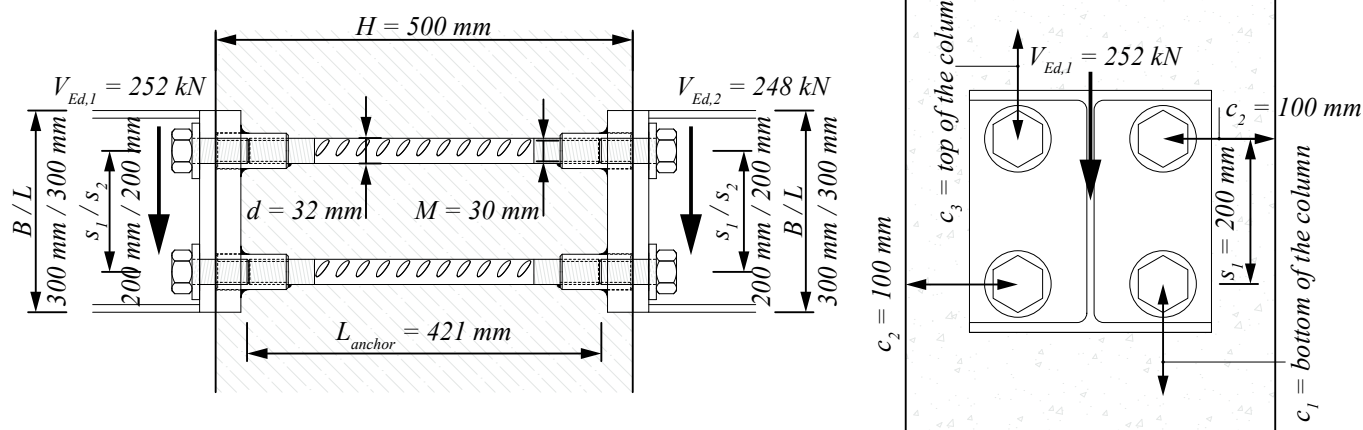

Figure 14. THRELDA® Double T Anchor Plate with shear load.
- Updated values in Figure 14 and selection table.